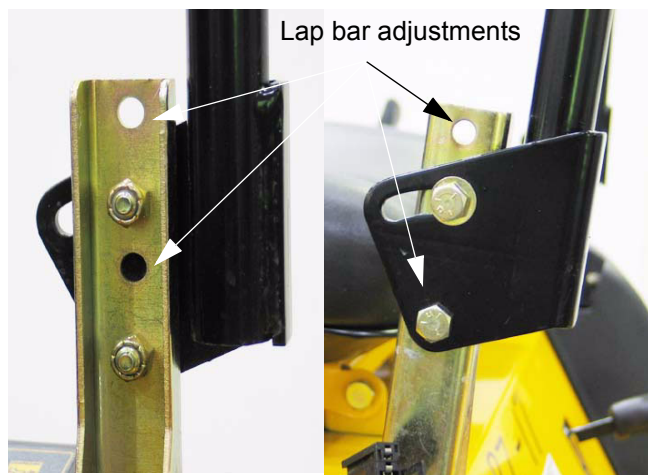

Figure 7.12
- 7.12. If the lap bars are not aligned with each-other, they may be adjusted using the slotted mounting where they connect to the lap bar pivot brackets. See Figure 7.12.